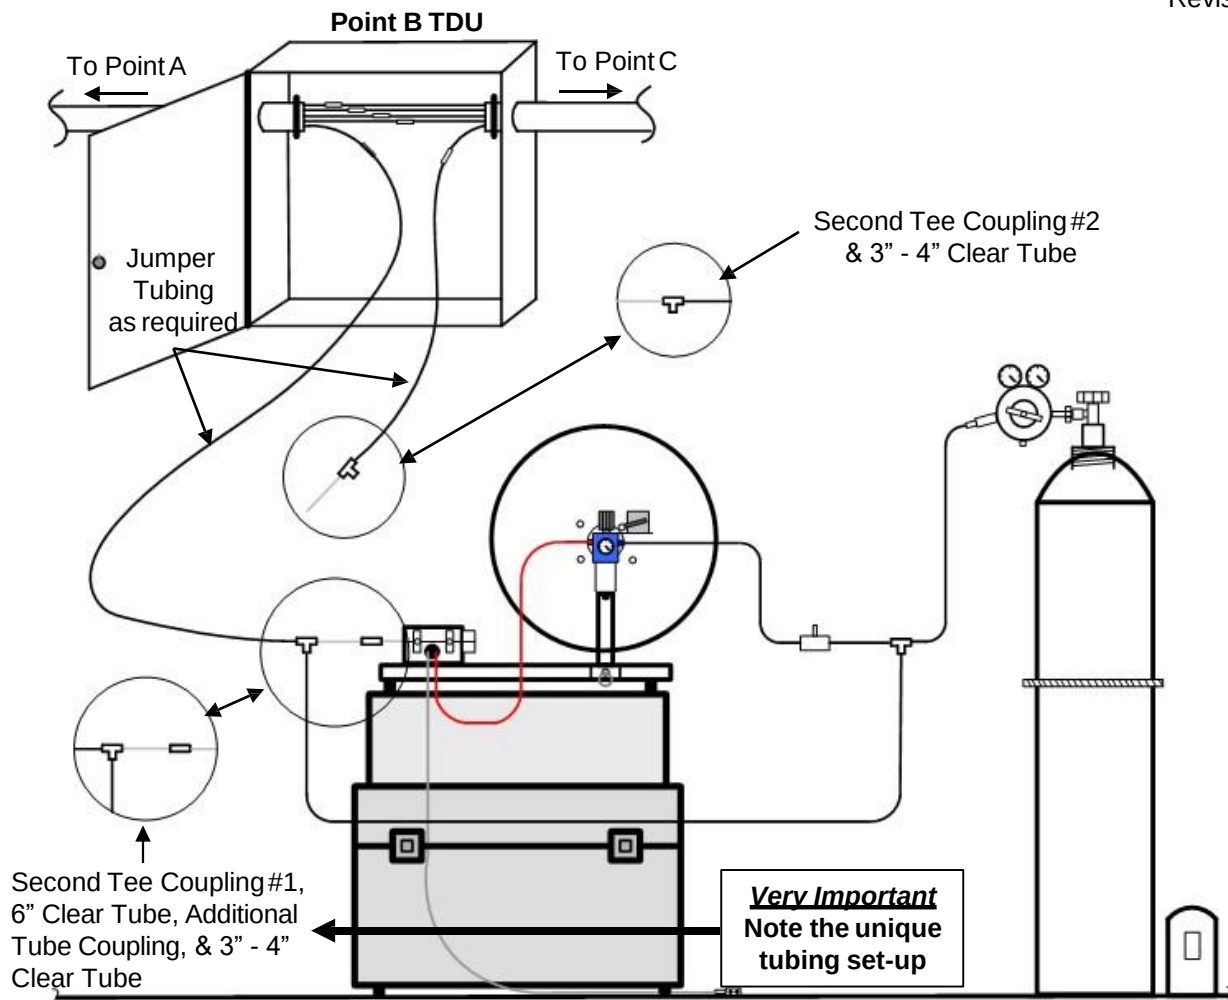

Figure 4
6.4 At Point B, set up Blowing Head and fiber reel in accordance with Sumitomo Recommended Procedure SRP SP-F04-001 with the following exceptions. **See Fig. 4.**